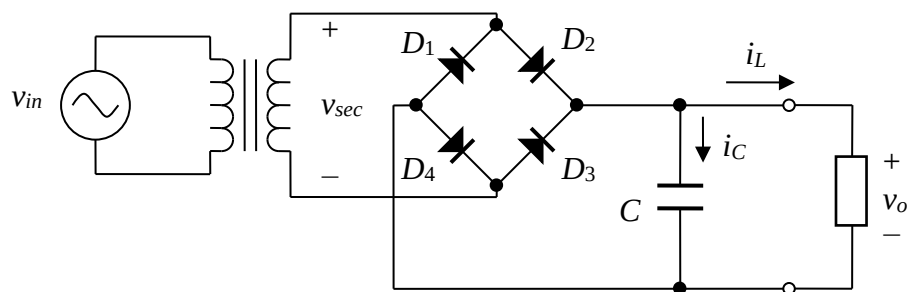
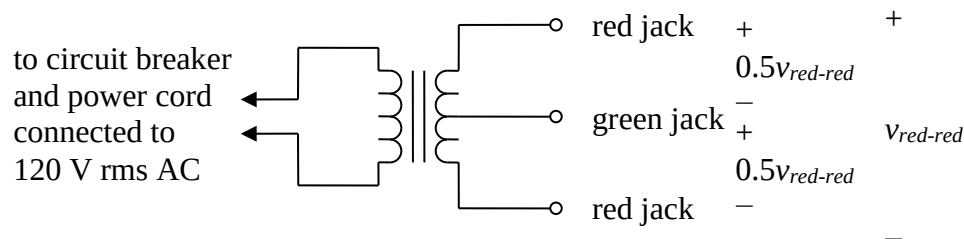

Figure 3. Full-wave bridge rectifier circuit with filter capacitor.
Figure 6. Connections to transformer inside its enclosure.
The presence of ripple in the output of a power supply can be mitigated partly by using a *full-wave rectifier* circuit like the one shown in Figure 3. In this circuit, diodes D_2 and D_4 conduct during part of the positive half-cycles of v_{sec} , and diodes D_1 and D_3 conduct during part of the negative half-cycles. During both half-cycles current flows downward through the load. As with the half-wave rectifier, the diodes conduct for only a small part of each half-cycle because the slowly falling voltage v_o across the filter capacitor C ensures that the diodes are off ($v_D < V_F$) most of the time.
specification is easily determined. The current i_c that flows into the upper end of the filter capacitor in Figure 3 is related to the capacitor's voltage (which is equal to v_o) by
Warning #1: Do not attempt to measure both the AC voltage on the secondary winding of the transformer (v_{sec}) and the output voltage across the load (v_o) with the oscilloscope at the same time. If you try to do this, the ground leads will create a short across diode D_4 in Figure 3 that will most likely lead to the destruction of diode D_1 . You should trace the circuit connections in Figure 3 and understand how this can happen before proceeding.
- Design and assemble a DC power supply with a full-wave bridge rectifier like the one shown in Figure 5. This circuit is identical to the one shown in Figure 3, except that a load consisting of three LEDs wired in parallel has been added. A transformer will be supplied to you. For safety reasons, the transformer is enclosed in a box with a power cord and a circuit breaker. As shown in Figure 6, there are three jacks on the box that are connected to the secondary winding. The two red jacks connect to the ends of the secondary winding, and the green jack connects to a center tap. For this lab experiment, take the AC voltage for your power supply between the green jack and one red jack. Before you can design your circuit, you will need to determine the secondary voltage of the transformer by measurement. Be aware that the waveform might not be perfectly sinusoidal. Power line noise caused by computer power supplies and heavy equipment in the vicinity lead to the presence of significant harmonics in the local line voltage.